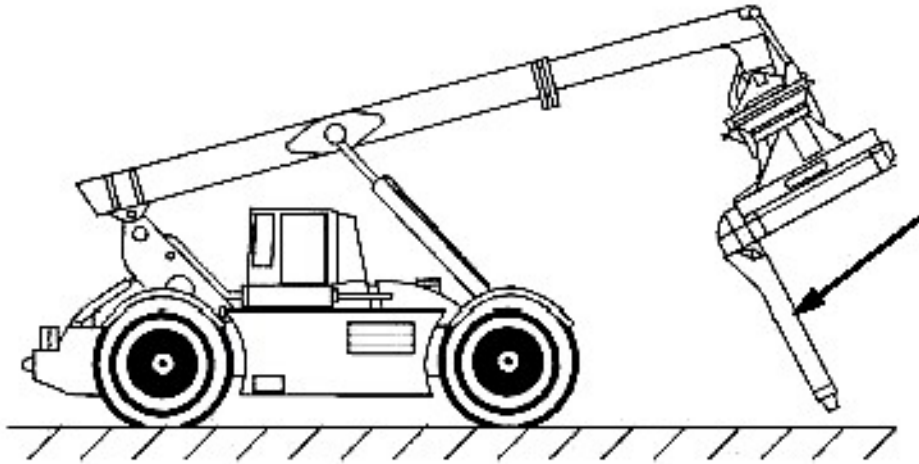

Figure 3-189
8. Slowly tilt the tophandler/forklift kit to the full rearward position while raising the boom so the upper fork arms will unfold downward (see Figure 3-189).